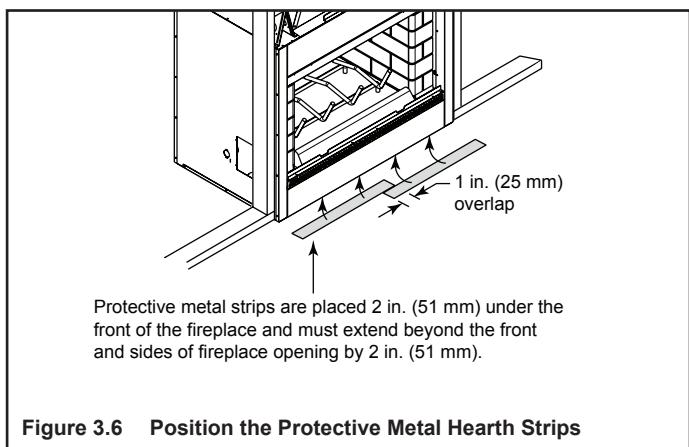

Figure 3.6 Position the Protective Metal Hearth Strips
- Metal strips must extend beyond the front and sides of the fireplace opening by at least 2 in. (51 mm), Figure 3.6.
- Protect the front of a platform elevated above the hearth extension with metal strips (not included with fireplace) per Figure 3.6. See Section 7 for hearth extension instructions.